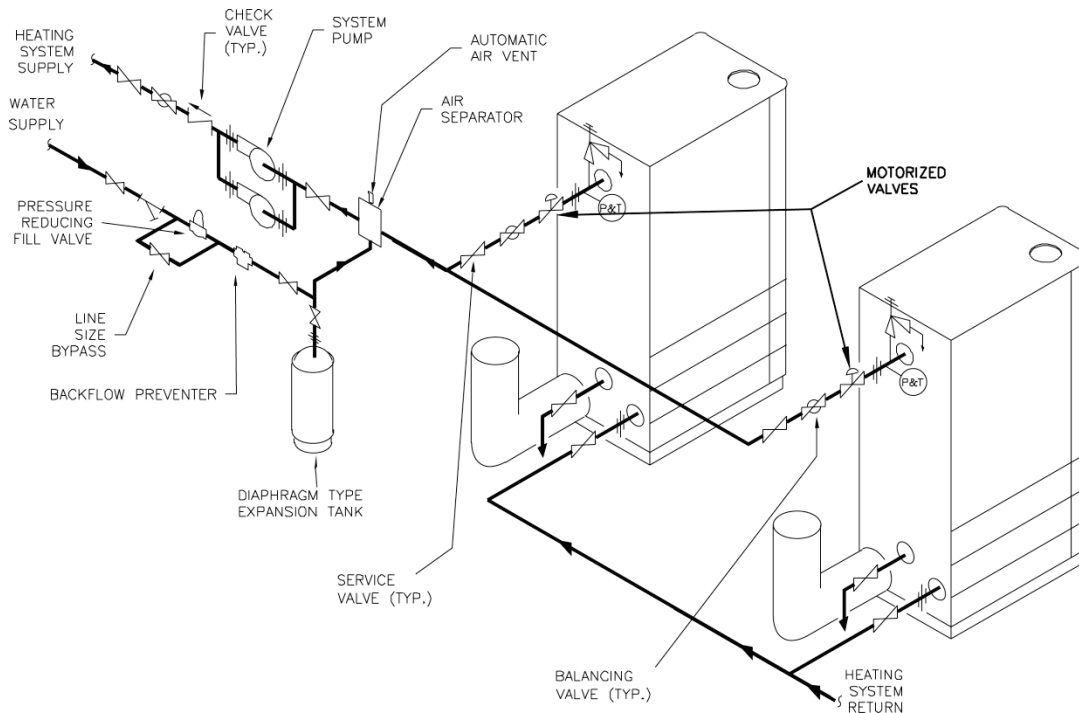
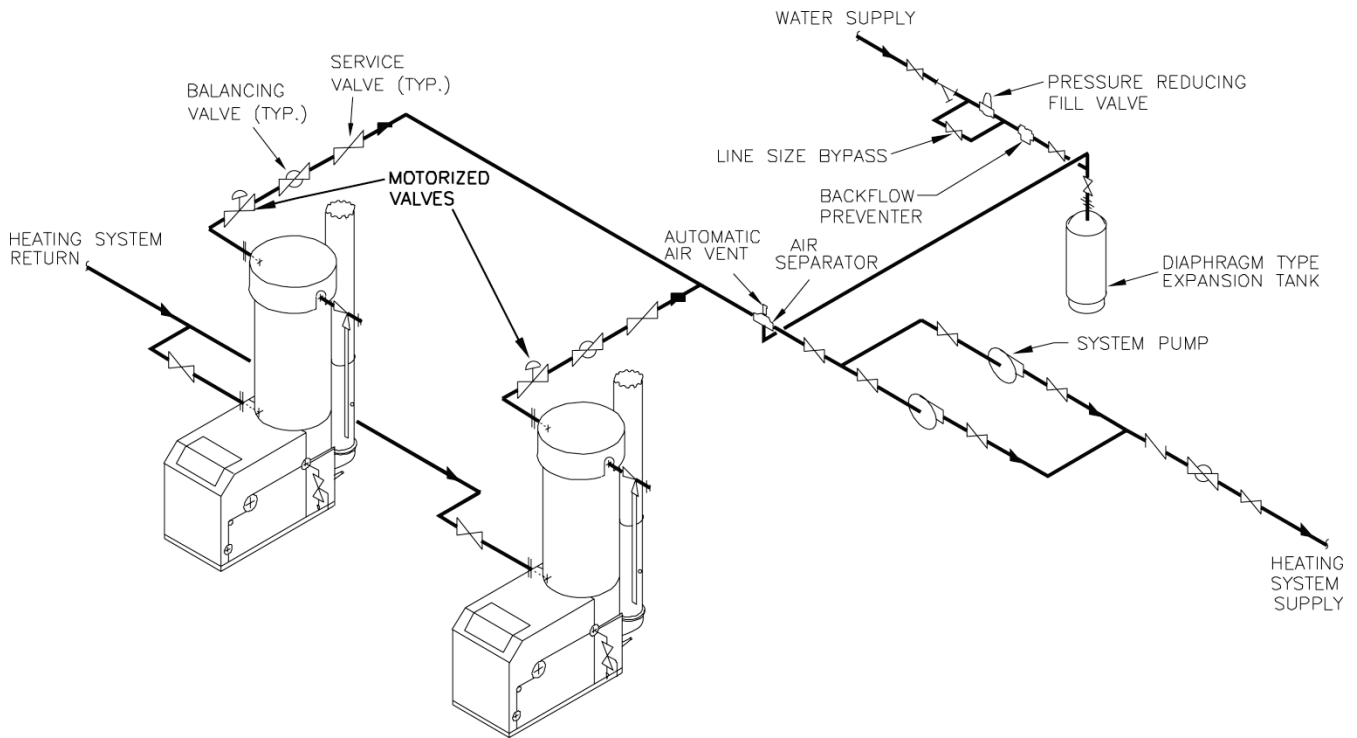

Figure 1: Multiple Boiler Piping Schematic Showing Motorized Valve Locations for AERCO Benchmark Boilers
Figure 2: Multiple Boiler Piping Schematic Showing Motorized Valve Locations for AERCO KC1000 Boilers
These valves are only used to isolate a boiler from the system during low load conditions. A separate service valve **MUST** be installed for each boiler. See **Figure 1** and **Figure 2**, which show typical installation diagrams – local codes and authorities should be consulted for compliance. The primary purpose of these diagrams is to illustrate the motorized valve location – see specific piping diagram provided with the AERCO boiler for the rest of the piping details.
1. From the first column, identify the AERCO Boiler Series to which the Belimo valve will be applied. If the Belimo valve is being installed on a BMK boiler that is already in the field, to determine if the boiler is equipped with BMK Pump Relay Option 69102, see Figure 1 on next page.